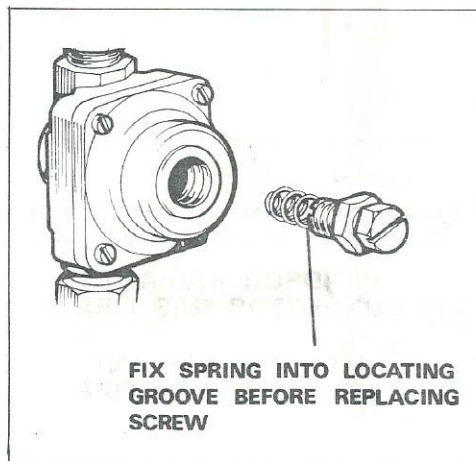

FIG. 7
7. Remove and discard the spring. Fit the natural gas spring (copper finish) (Key No. 2) to the screw. (See Fig. 7).